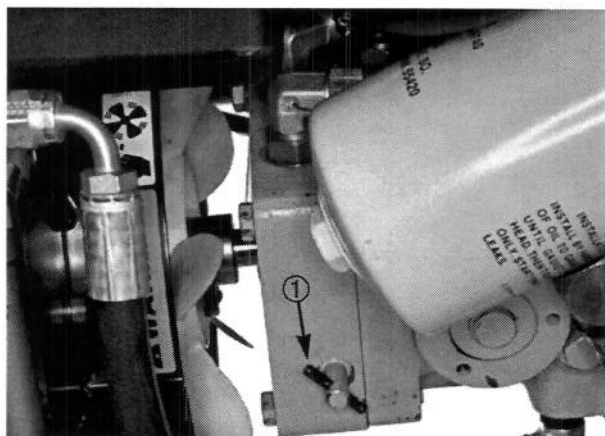

Figure 11
1. Remove the (3) screws securing the side panel from the left side of the machine and remove the panel.
2. Rotate by-pass valve on pump counterclockwise until it is fully open (Fig.11).